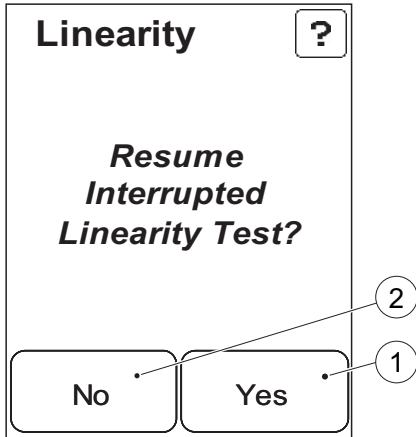
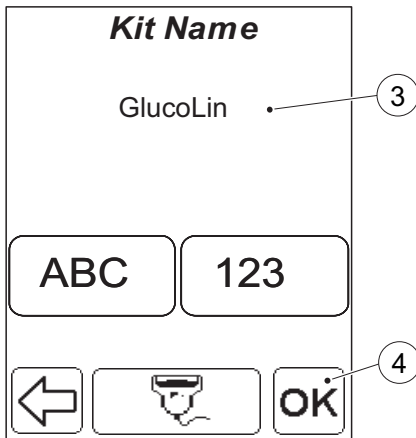

FIGURE 6-15
FIGURE 6-16
- If the linearity test is interrupted and then resumed within 10 hours by the same operator, using the same Cuvette Batch No. *FIGURE 6-15* will be displayed. Otherwise *FIGURE 6-16* will be displayed.